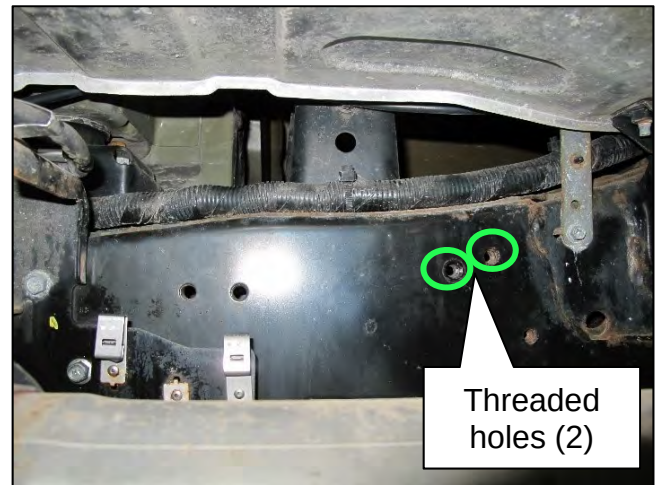

Figure 48
33. Locate the area shown in Figure 48 on the RH side frame rail.
- Locate the two (2) threaded holes.